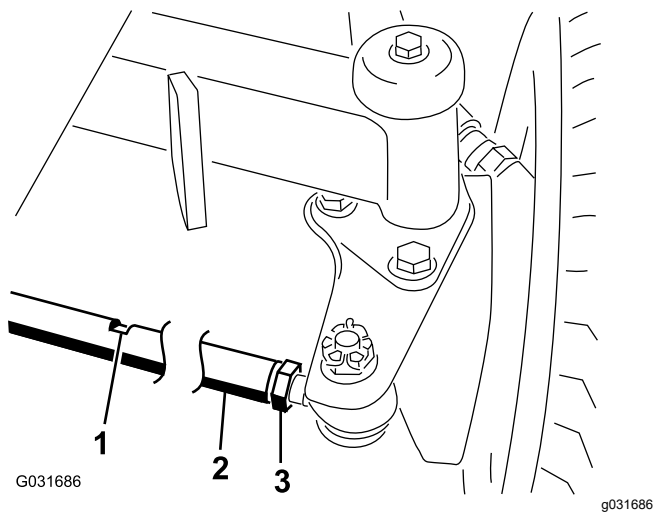

Figure 60
2. Loosen the jam nut on each end of the tie rod (Figure 60).